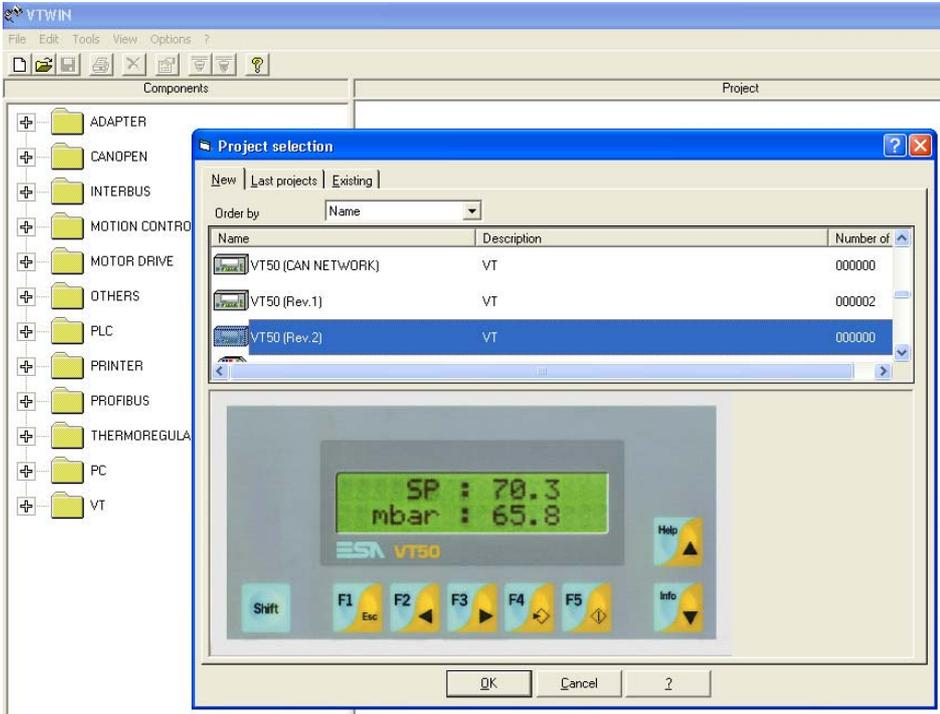

Fig.2.
3.2 From the *Project selection Screen* choose VT50(Rev. 2) and click OK (see Fig. 2)